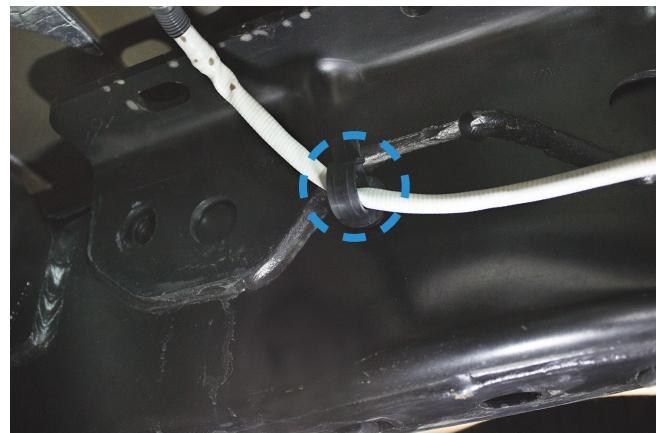

Fig. 28
9. To install the passenger's (right) side upper brace (F) locate the clip (blue circle Fig. 28) that holds the wiring harness for the O2 sensor. Remove and discard the clip as it will no longer be needed.